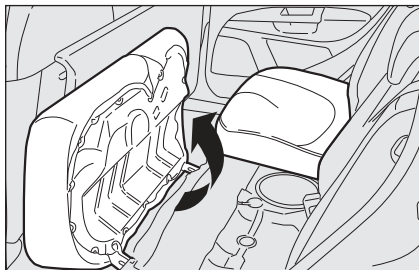

fig. 81
- tilt the cushions forward as shown by the arrow **fig. 81**;